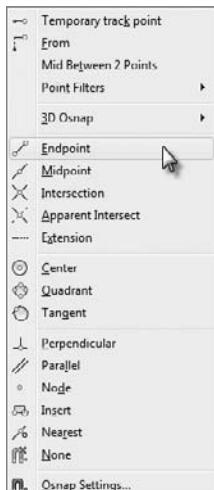

FIGURE 4.50 Select the Endpoint osnap from the Object Snap context menu.
5. Hold down the Shift key, and right-click in the drawing area to open a context menu containing all the available osnaps. Click on the Endpoint option, as shown in Figure 4.50, to activate the Endpoint osnap.
You'll be using several osnaps for this procedure. Rather than entering each osnap, you can activate any object snap by holding down the Shift key and right-clicking in the drawing area. This opens a context menu with all the object snap options shown earlier in Figure 4.50. Selecting any of these options activates the osnap for a single pick.